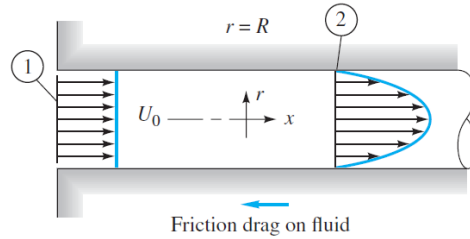

Fig. 3.15
3.15 Consider incompressible flow in the entrance of a circular tube, as in Fig. 3.15. The inlet flow is uniform, $u_1 = U_0$. The flow at section 2 is developed pipe flow. Find the wall drag force F as a function of (p_1, p_2, ρ, U_0, R) if the flow at section 2 is